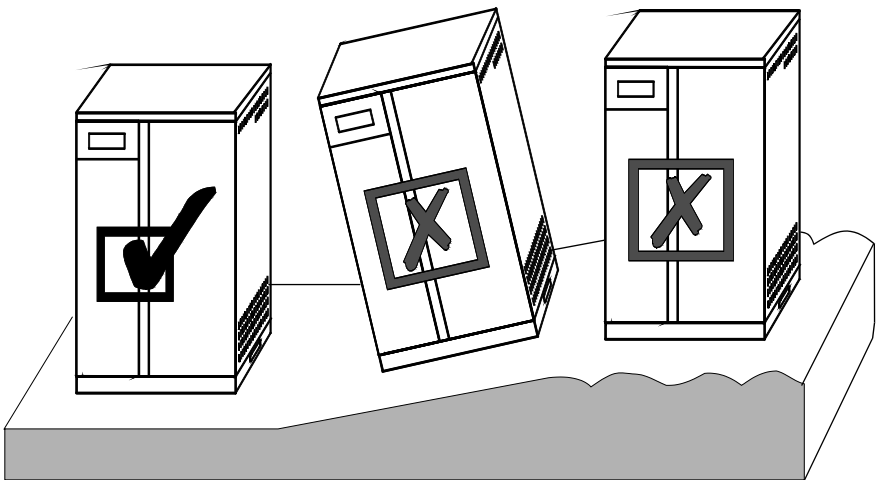

Figure 4 : UPS Positioning
1. Do not put the UPS on rugged or declined surface. (Fig.4)